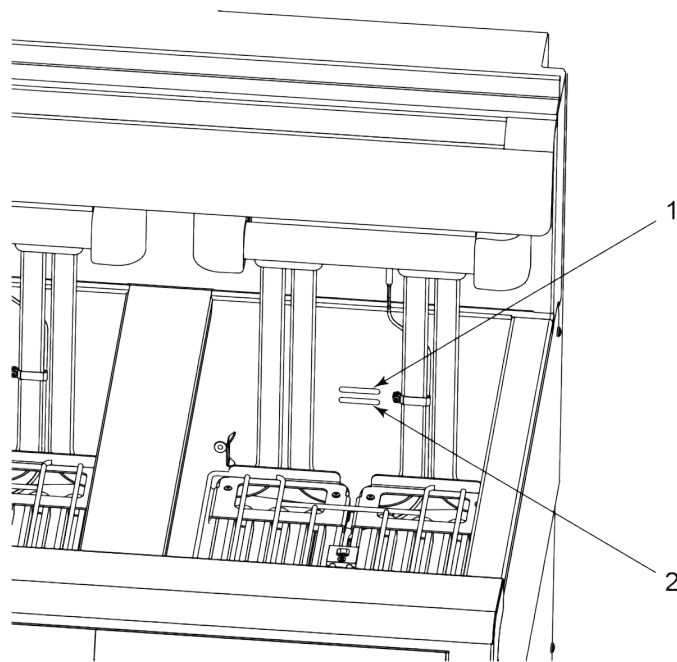

Figure 4-2 Level Indicator Lines
Each F5 vat has two level indicator lines as referenced in Figure 4-2 Level Indicator Lines, page 19. The upper fill line (1) indicates proper oil level at set-point temperature. The lower fill line (2) indicates proper oil level at room temperature. When filling an empty vat with room temperature oil, fill to the center of the lower fill line (2). As oil heats, it expands to the upper fill line (1).